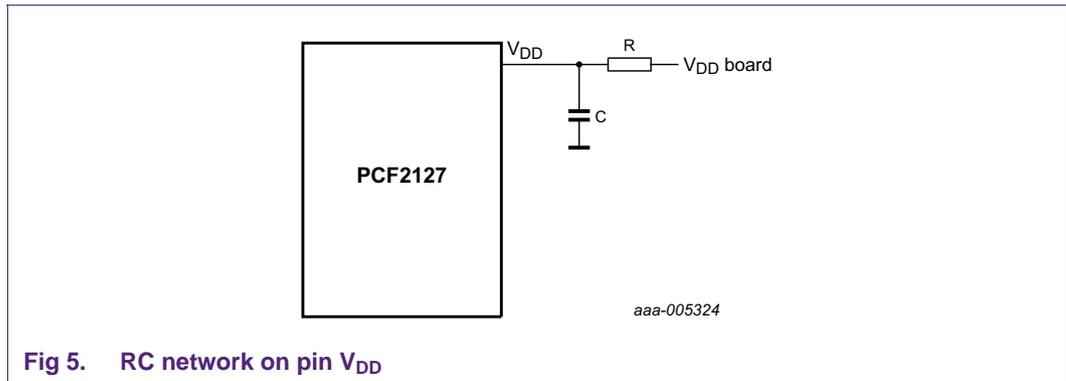

Fig 5. RC network on pin VDD
- higher than some mA it is recommended to add an RC network on the  $V_{DD}$  pin, as shown in Figure 5.